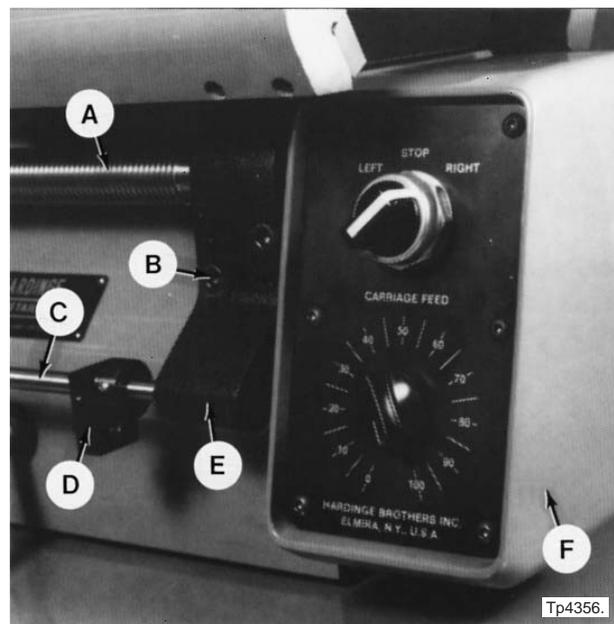
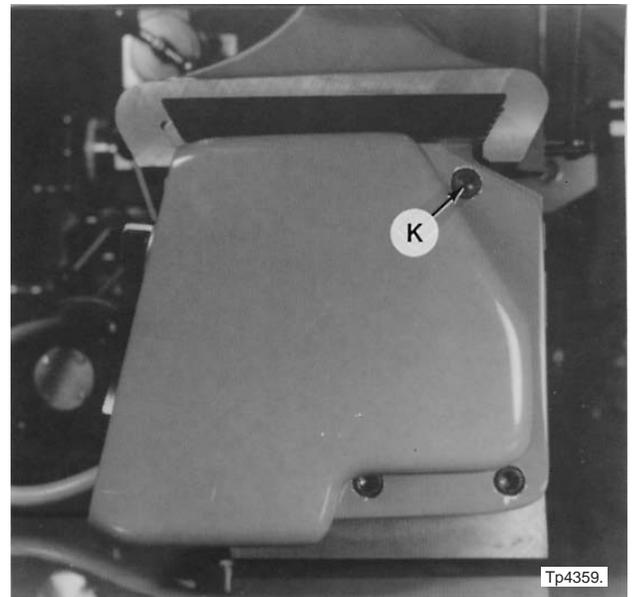

Figure 1.29 - Lead Screw and Bracket
Figure 1.32 - Power Feed Control Box (End View)
3. Remove the taper pin from positive stop "D", Figure 1.29 .
8. Remove three bolts "K", Figure 1.32 .
9. Set power feed control box "F", Figure 1.29, toward the rear of the machine.
11. Remove two screws "B", Figure 1.29 .
14. Remove positive stop "D", Figure 1.29 .
5. Install positive stop "D", Figure 1.29, on stop rod "C".
7. Install bracket "E", Figure 1.29, and any shims that were located between the bracket and the bed:
8. Remount power feed control box "F", Figure 1.29, using three bolts "K", Figure 1.32 .
14. Install the taper pin in positive stop "D", Figure 1.29 .